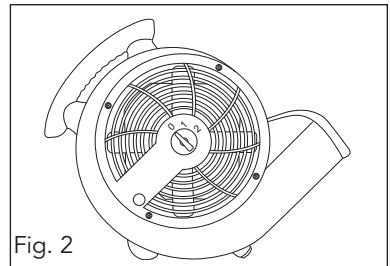

Fig. 2
- 45° Position for applications such as, drying plaster on walls or drying wet furniture. To use this position, tilt unit backwards so it rests on the support (8). (Fig 2).